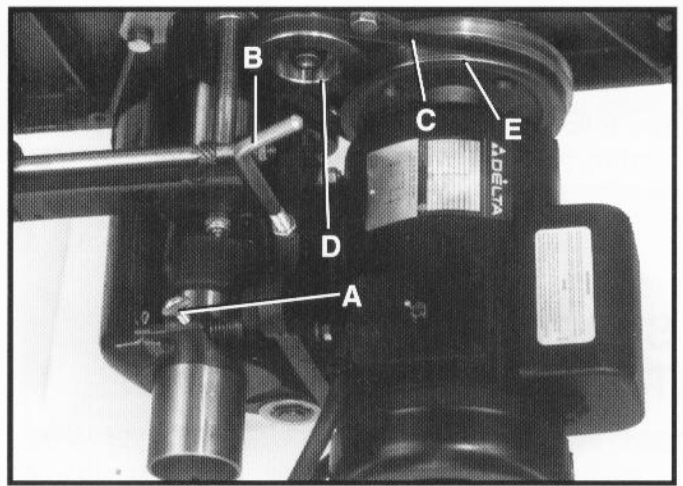

Fig. 22
2. Loosen thumb screw lock (A) Fig. 22. Release tension on belt by moving lever (B), to the left. Position belt (C), on the desired steps of the spindle pulley (D), and the motor pulley (E), and apply belt tension by moving lever (B), to the right. When desired belt tension is applied to belt, retighten thumb screw lock (A).